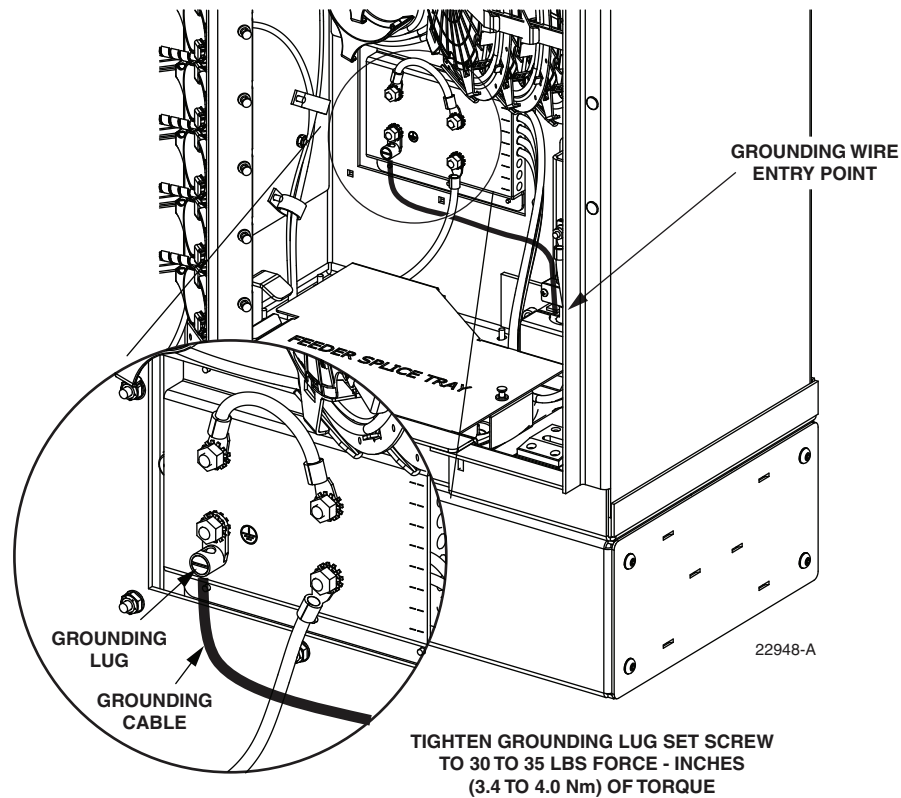

Figure 15. Grounding Wire Connection To Cabinet
Prior to mounting the cabinet, a grounding system and grounding wire should have been installed (see Section 4.4) in the space below the cabinet. Use the following procedure to connect the grounding wire to the cabinet. Refer to Figure 15.
2. Working through the access openings in the base of the cabinet, insert the grounding wire through the flexible membrane at the point indicated in Figure 15.